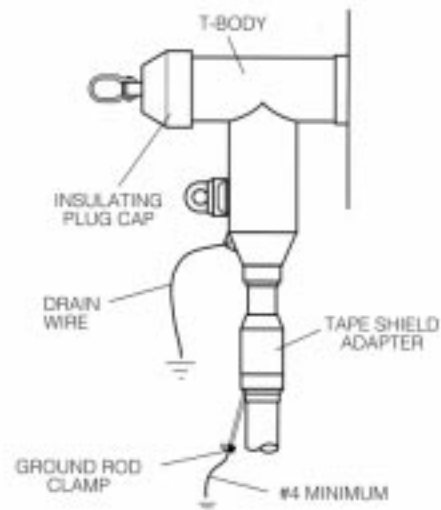

Figure 20.
- Connect tie-off tab of T-Body with at least one strand of drain wire to cable concentric neutral wires or to common ground point. (Refer to Figure 20.)